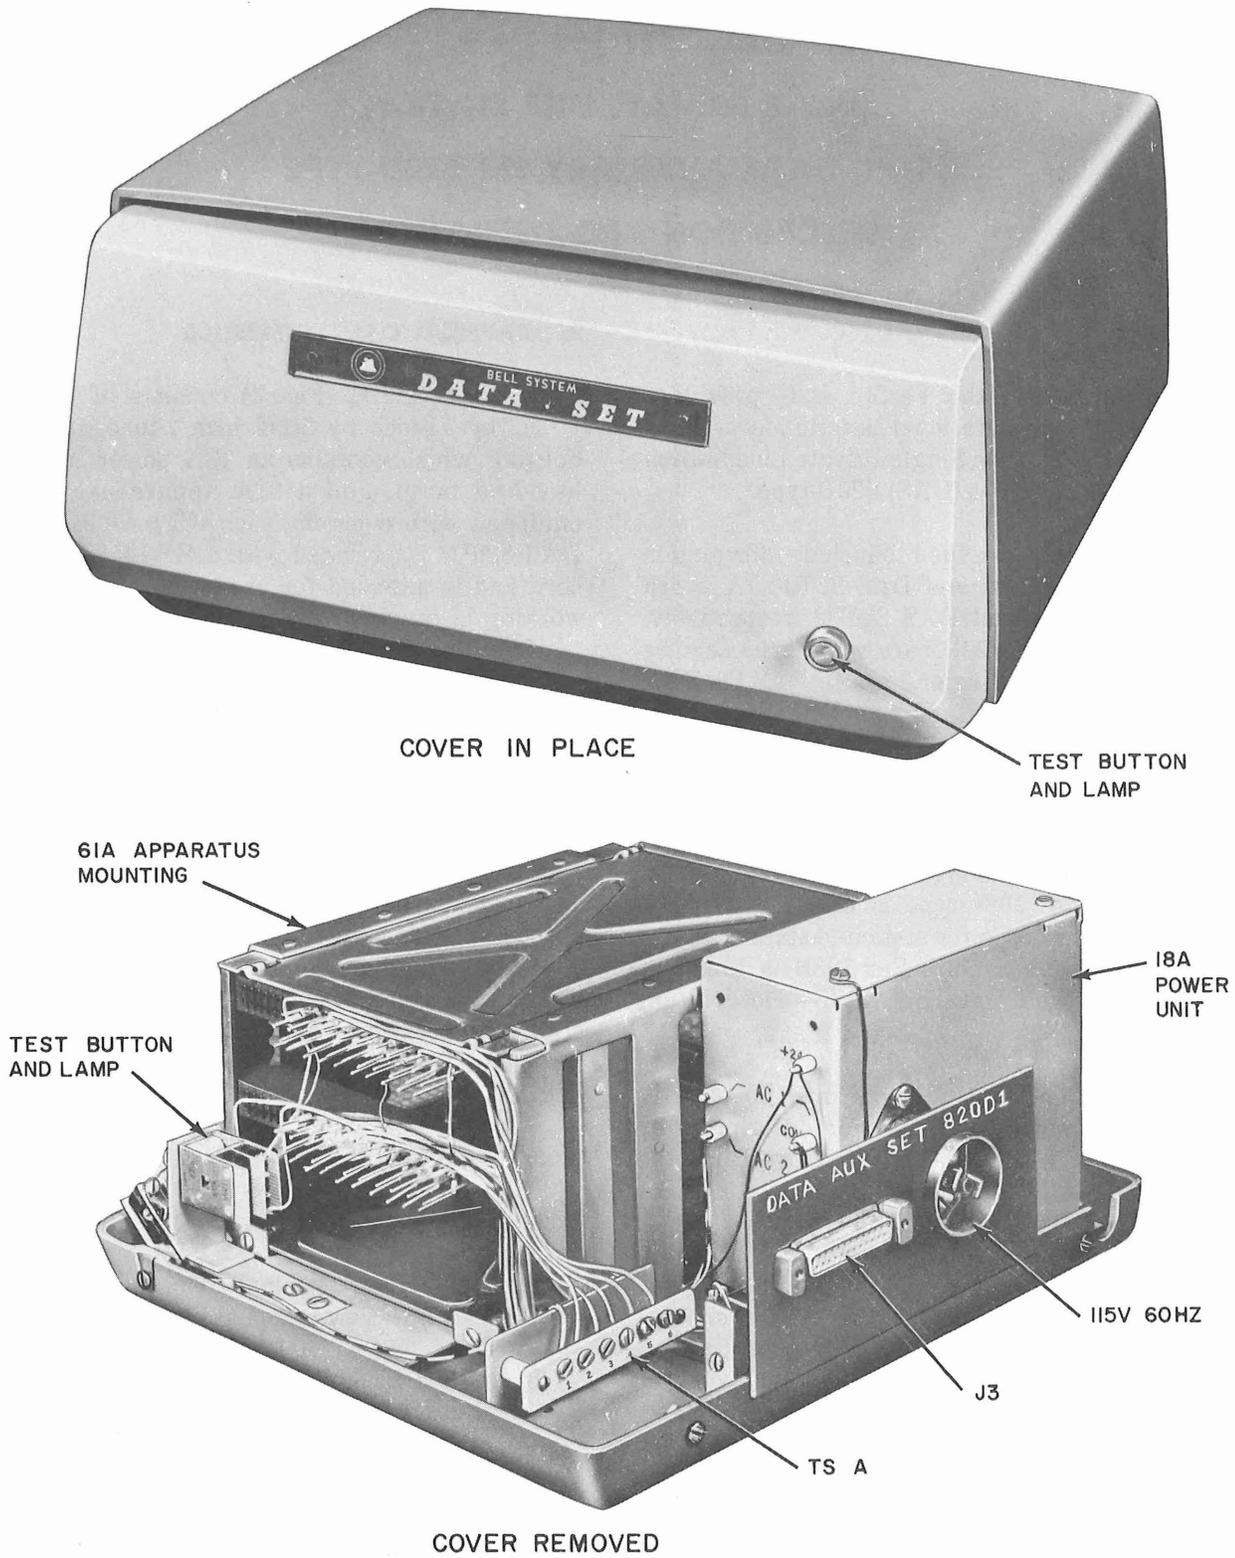

Fig. 1—Data Auxiliary Set 820D1
2.01 DAS 820D1 (Fig. 1) consists of an 11-inch by 11-inch by 5-1/2 inch 2-tone gray plastic housing which contains an 18A power unit, TEST key and lamp, and a 61A apparatus mounting equipped with a circuit pack (CP) AR16 or AR17. DAS 820D1 is provided with a KS-14532-L16 power cord and is intended for use as a single station set working in conjunction with a CPT.